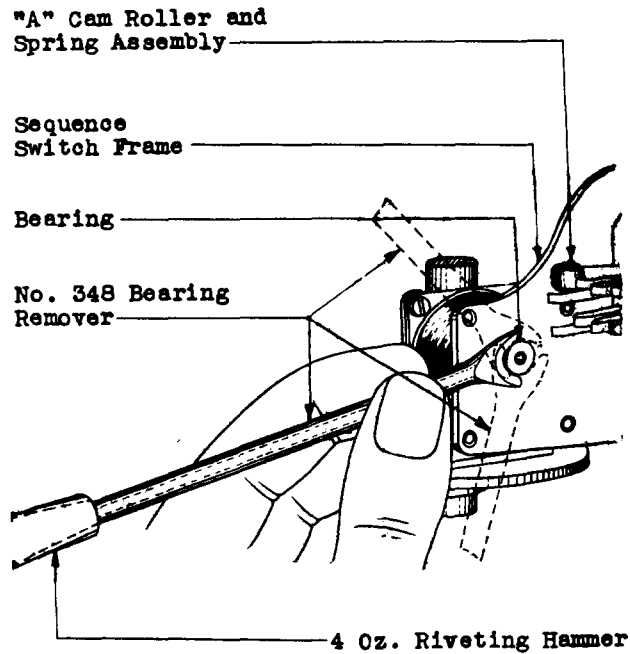

Fig. 19 - Method of Starting Removal of Bearing
3.44 To replace a bearing, remove the camshaft assembly as covered in 3.16 to 3.21, inclusive. Apply the No. 348 bearing remover between the bearing and the sequence switch frame as shown in Fig. 19 and tap the tip of the bearing remover with the 4-ounce riveting hammer. Repeat this operation, moving the bearing remover to each of the positions indicated by the dotted lines in Fig. 19. Never strike the bearing remover at right angles to the length of the remover and take care to tap the remover gently so as to avoid damaging the magnet. Continue in this manner, each time applying the bearing remover at a different position so as to gradually work the bearing out of the sequence switch frame.